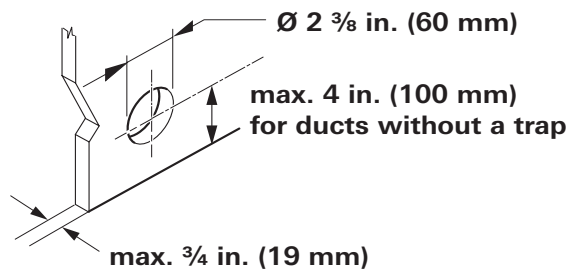

Fig. 21
1. Drill a hole with a diameter of 2 3/8 in. (60 mm). If there is no trap in the duct, the hole must be no more than 4 in. (100 mm) above the floor (Fig. 21).